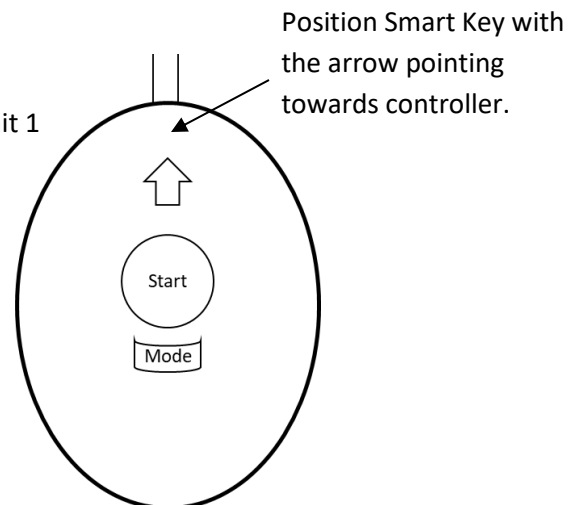

Figure 4: Insert the Smart Key
- e. Wait until the arrow shaped indicator light on the Smart Key is steady green (see Figure 4).